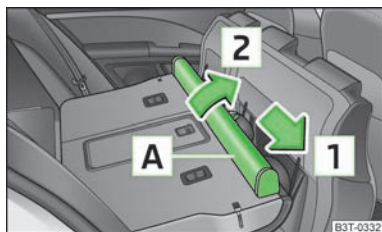

Fig. 81
- > Push the net partition housing » Fig. 81 in the direction of the arrow and remove it from the mounts on the rear seats in the direction of the arrow .